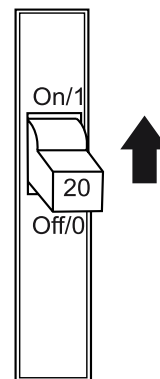

Figure 64. GFCI Circuit Breaker
2. Place a GFCI circuit breaker (Figure 64) in the **ON** position.